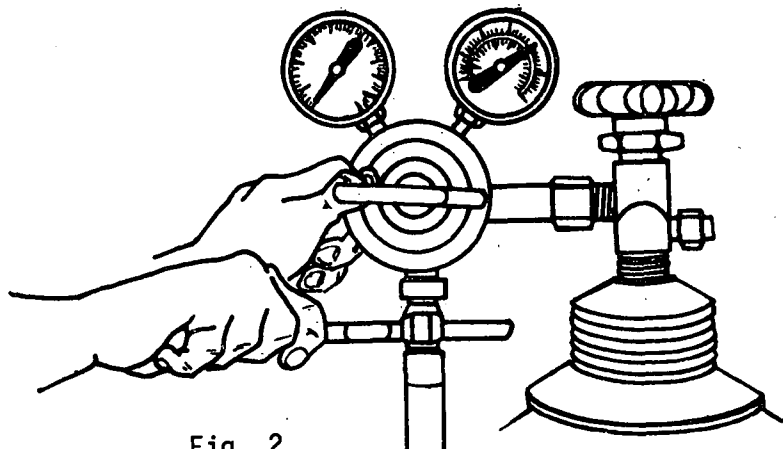

Fig. 2
a) Connect the hoses to the regulators (fig. 2).